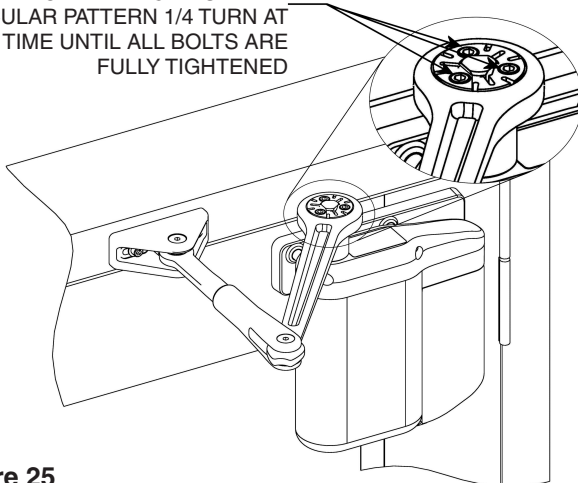

Figure 25
- Refer to Figure 25, and, while maintaining the door arm position, TIGHTEN the door arm coupling